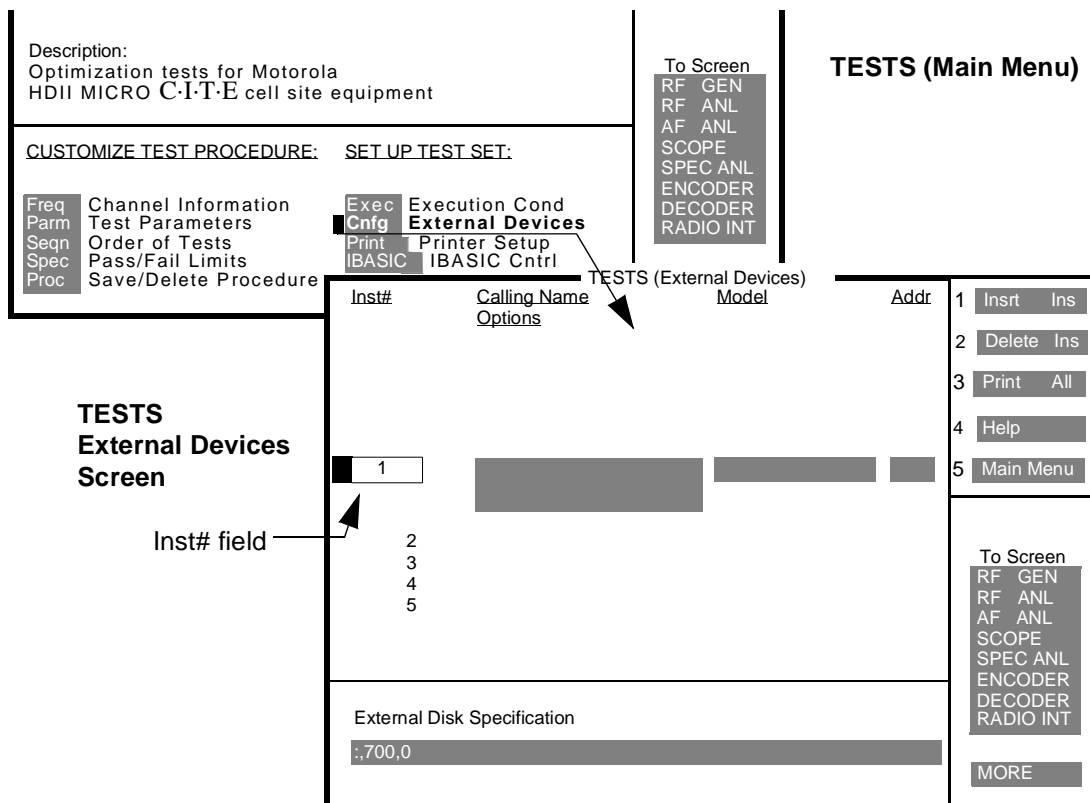

Figure 7
- 1 On the TESTS (Main Menu), position the cursor and select **Cnfg External Devices**. The TESTS (External Devices) screen appears (see figure 7).